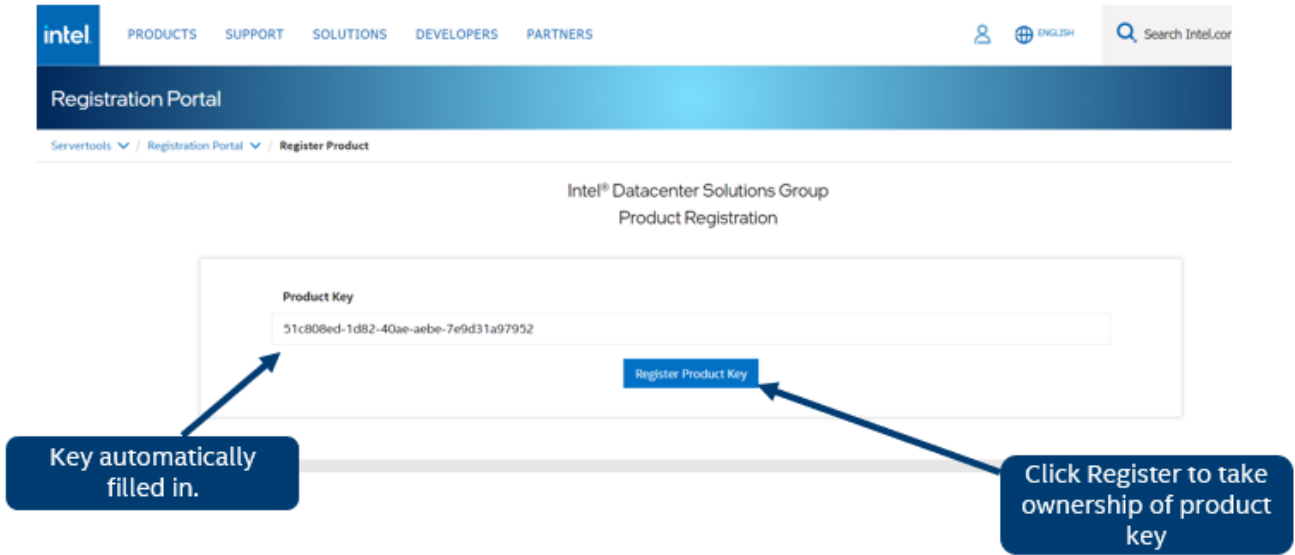

Figure 142. Register Key
5. On the Registration Screen, Click the “Register” button to register the pre-entered license key number (see Figure 142)